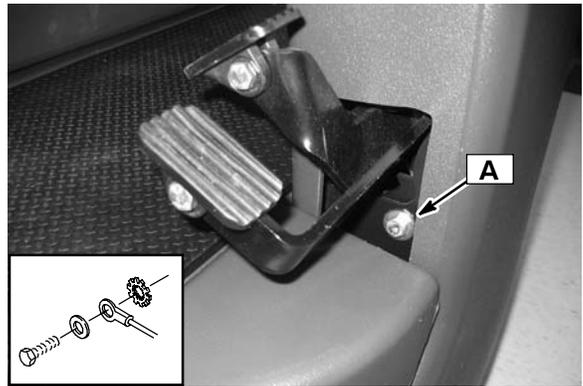

Fig. 7
11. Remove bolt and flat washer (A) from pedal mounting bracket - discard bolt; save washer. Replace with one star washer, bolt and ground wire from the kit, along with the flat washer that was saved (Figure 7).